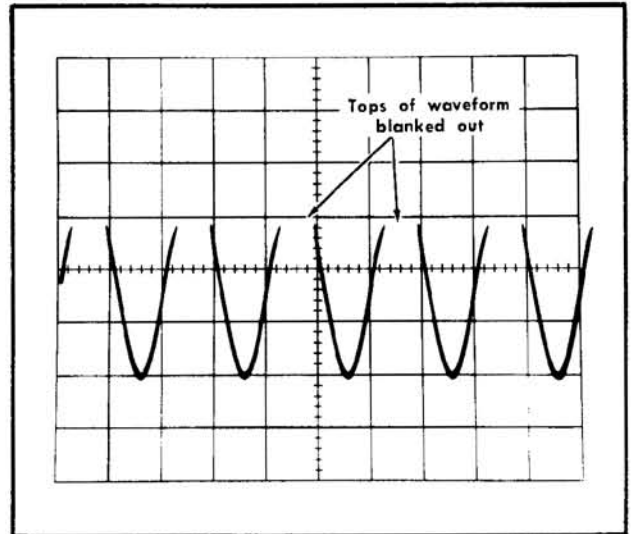

Fig. 6-56. Typical CRT display when checking external blanking.
- e. CHECK—The positive peaks of the displayed signal should be blanked with a normal INTENSITY control setting (see Fig. 6-56).